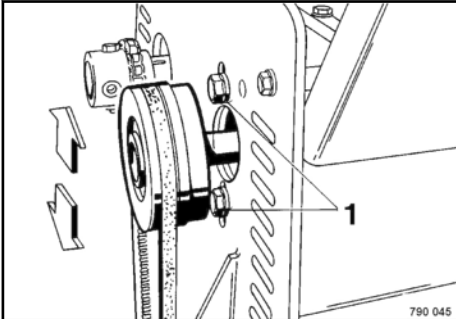

Fig. 63
Loosen bearing fastening screws (1) ↪ Fig. 63.